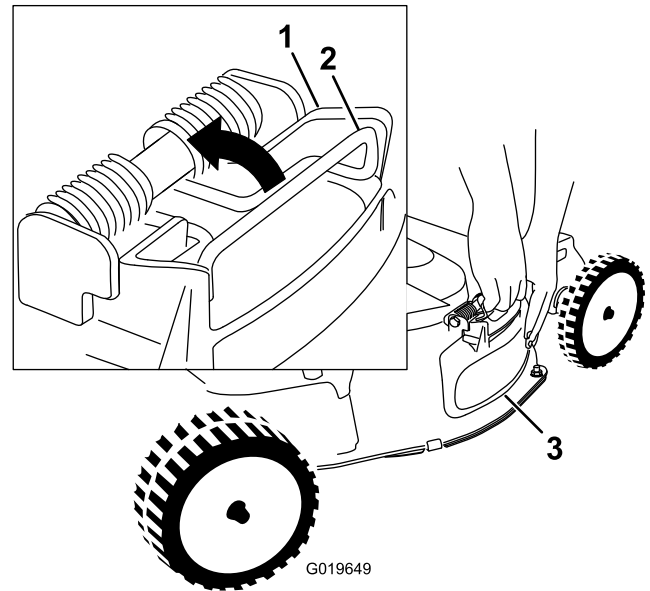

Figure 20
4. Remove the side-discharge deflector by pulling up on the spring that holds the deflector in place and removing the deflector (Figure 20).